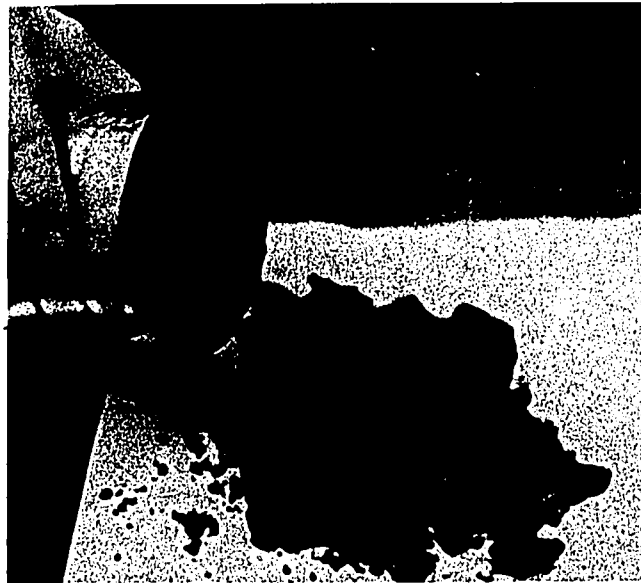

Fig. 9B-3. Dumping Soil
- Break each of the soil samples into chunks no larger than 1" in dimension and loosely fill each can. Place all extra material to one side. See Fig. 9B-4.
- Tamp the soil in each can with a wooden block. See Fig. 9B-5. Measure the distance from the top of the cans to the